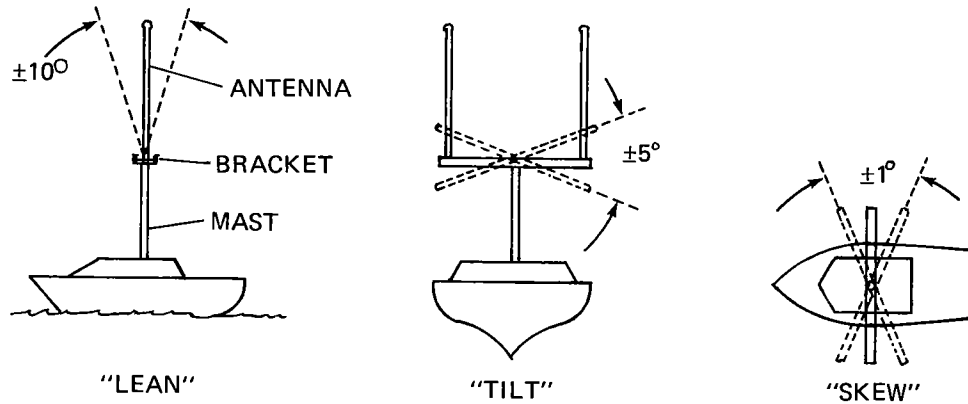

Figure 2-1. Antenna Unit Mounting Tolerances
2.5.2.1 Tolerances. - The tolerances shown in figure 2-1 indicate the relative importance of various mounting errors. The most important consideration is that the installation be symmetrical about the bow-stern-mast line.